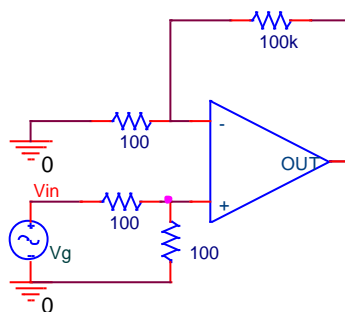

Figure 6
- 6.3. Given the op-amp in Figure 6, with  $SR = [ABC / 100] V / \mu s$  and bandwidth  $BW = [1 + DEF / 100] MHz$ ,
💡 You will use the circuit in Figure 6 to measure slew-rate. In the lab, you will choose a square-wave as an input signal. Here, you will now explain how to measure slew-rate using a step-function.
- 6.4. Suppose that a capacitor is connected to Figure 6's output. Your input is defined as an ideal step function:  $V_g(t < 0) = 0$ ,  $V_g(t > 0) = a$ . Qualitatively draw the output of the circuit for different values of  $a$  where the circuit is not limited by SR, and for several values of  $a$  where it is limited by slew-rate.